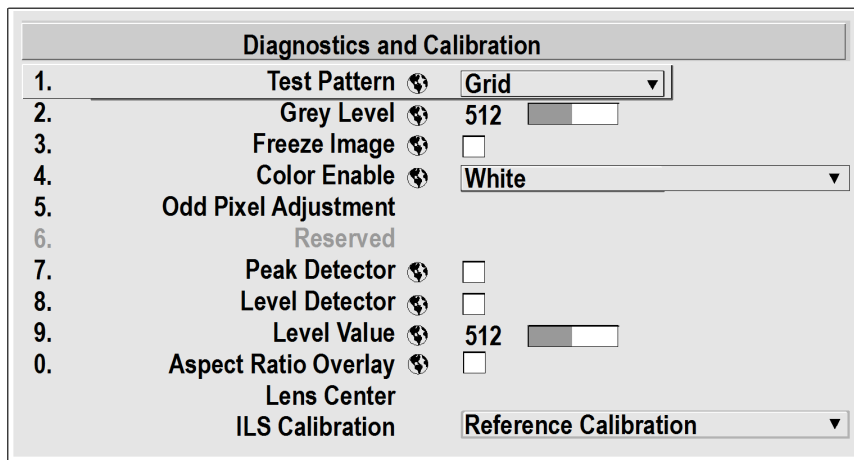

Figure 2-9 Diagnostic and Calibration Menu
7. Calibrate the lens. See *Figure 2-9*. For more information, see *Section 3, Operation* in the *Roadie HD+35K User Manual*.